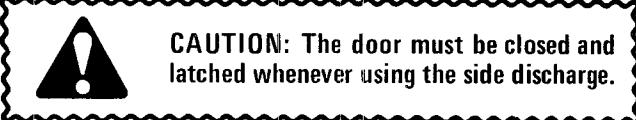

Figure 23
2. Remove the side cover and install the deflector on the two threaded studs and under the retainer clip as shown in Figure 23. Be sure it is attached securely so the deflector switch is activated.